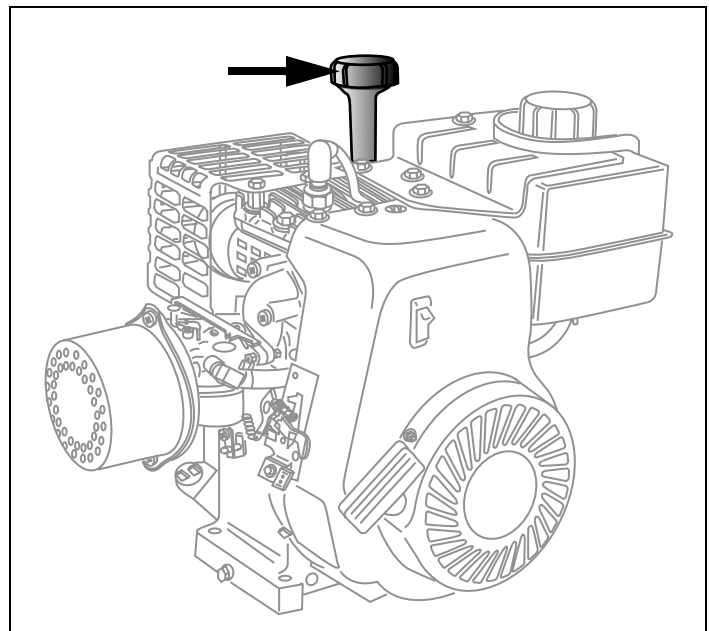

Figure 11. Possible Oil Fill Dipstick Location
*Some Power Sport Engines are equipped with an oil fill dipstick. See Figure 11.*